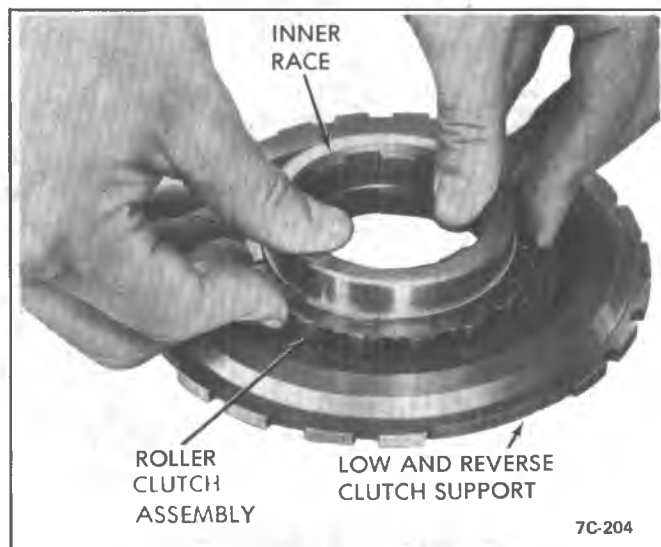

Figure 7A3-107 Install Roller Clutch Inner Race
2. Remove manual valve from lower left hand bore (J).
3. From lower right hand bore (A) remove the pressure regulator valve train retaining pin, boost valve sleeve, intermediate boost valve, reverse and modulator boost valve, pressure regulator valve spring, and the pressure regulator valve.
4. From the next bore (B), remove the 2-3 shift valve train retaining pin, sleeve, control valve spring, 2-3 shift control valve, shift valve spring, and the 2-3 shift valve.
5. From the next bore (C), remove the 1-2 shift valve train retaining pin, sleeve, shift control valve spring, 1-2 shift control valve, and the 1-2 shift valve.
6. From the next bore (E), remove retaining pin, plug, manual low control valve spring, and the manual low control valve.
7. From the next bore (F), remove the retaining pin, spring, seat, and the detent regulator valve.
8. Install Tool J-22269, on direct clutch 2-3 accumulator piston and remove retaining "E" ring. (G) See Figure 7A3-111.